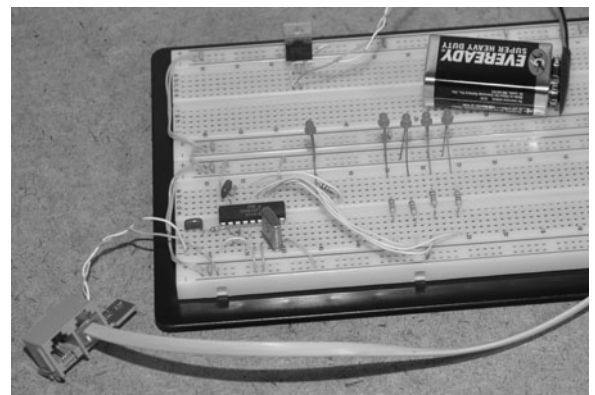

Figure 11-4 An RJ-11 telephone jack feeds the audio from the phone into the decoder.
To test the 8870 DTMF decoder using your phone line, you will need an RJ-11 female socket like the one shown in Figure 11-4 running into the breadboard. You can also cut the end off a standard phone cord and then insert the wires directly into the breadboard. A standard residential phone cord will have four wires, but only the two innermost wires are used. There will be a red wire and a green wire, and these two wires will carry the signal to your telephone terminal block. Be aware that there is a low-amperage 40-volt (V) potential on the phone line that jumps up to over 100 V when the phone is ringing. There is very little current in the phone line, but the high voltage is enough to give you a painful tingle if you happen to be touching both wires as the phone begins to ring. Keep this in mind as you work with live phone cables!